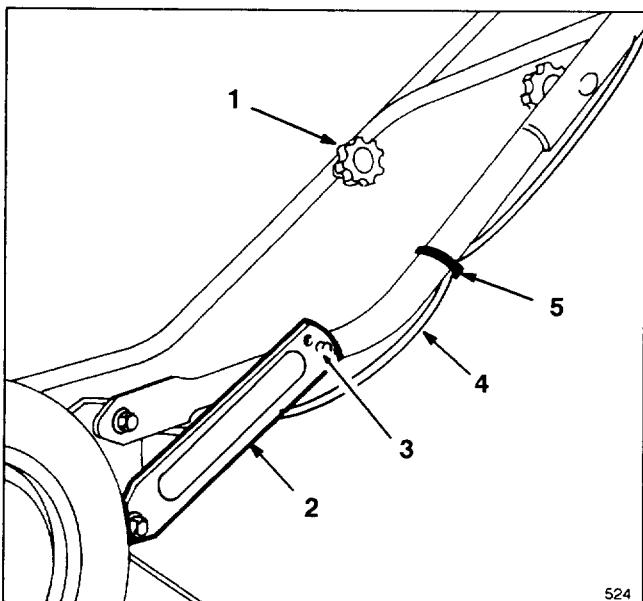

Figure 1
1. Align handle and tighten handle knobs (Fig. 1). Move handle latches slightly outward so they will not be in the way when pivoting the handle backward into the operating position (Fig. 1).
2. Pivot handle backward. Move handle latches inward while snapping handle stud into center hole of handle latch (Fig. 1). If a handle latch does not fit tightly against the handle tube, remove latch from handle stud, bend the latch inward, and reattach to handle stud. Repeat as necessary to ensure a tight fit between latch and handle.
Note: If handle height is not satisfactory, adjust by placing handle stud (Fig. 1) into a different hole.
3. Ensure control cables (Fig. 1) are to the rear and inside of handles. Secure cables to handle with cable ties. Tighten handle knobs securely.